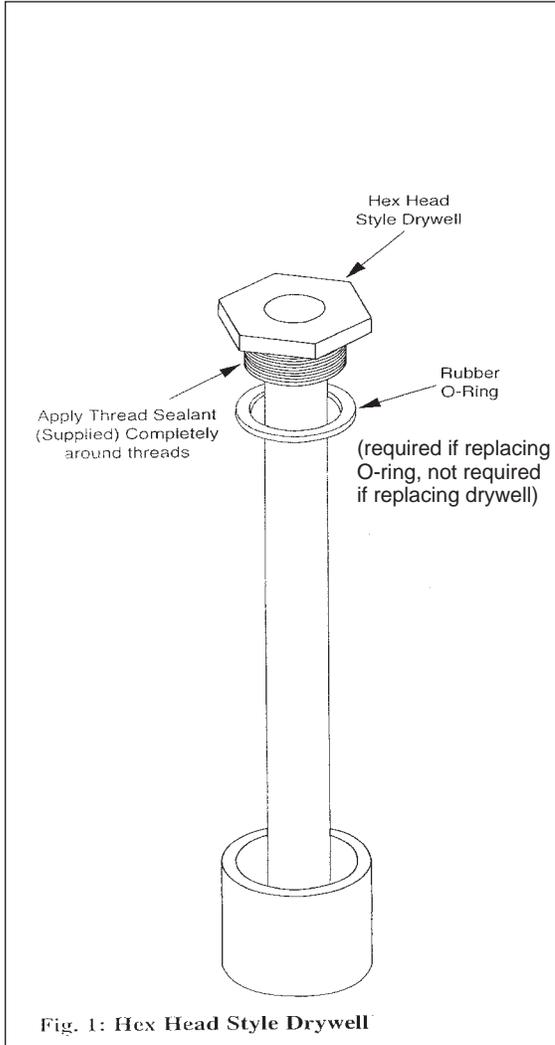

Fig. 1: Hex Head Style Drywell
2. Slide the new O-Ring over the end of the drywell and seat it properly into the underside groove (not shown) of the drywell head. (See Fig. 1)